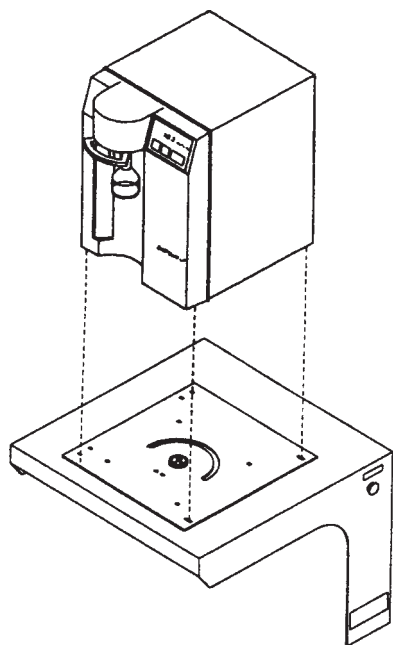

Figure 7: Orientation of Swivel Base
2. Place the EASYpure UV/UF on the wall bracket swivel base so the screw holes where the feet were attached line up with the holes in the wall bracket. There are guides on the wall bracket that will mate with the EASYpure UV/UF. See Figure 7.